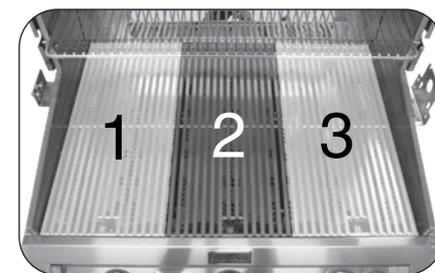

Fig. 27-2 Cooking zones detail
Your grill is divided into three cooking zones, each corresponding to a burner. Burners are numbered starting at one (1) on the left, going to three (3) on the right (see Fig. 27-2). The cooking zones are monitored by the digital thermometer - see DIGITAL THERMOMETER section.